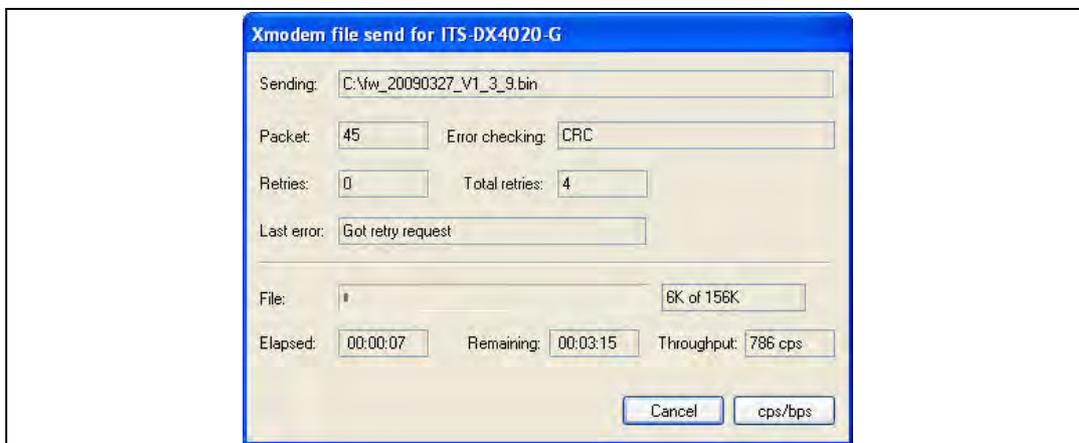

Figure 6.3 Xmodem File Send Progress Dialog Box
13. Click **Send** to start the firmware upgrade. The **Xmodem file send for ITS-DX4020-G** dialog box opens and indicates the upgrade progress. Refer to *Figure 6.3, Page 37*.